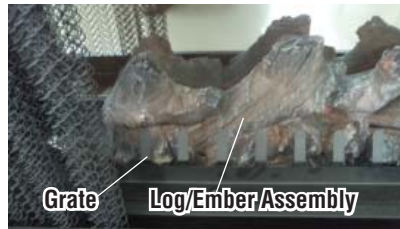

Figure 12
4. Remove the 2 screws on the front of the grate (see Figure 12. Also see item #7 on Page 17). Remove Grate.